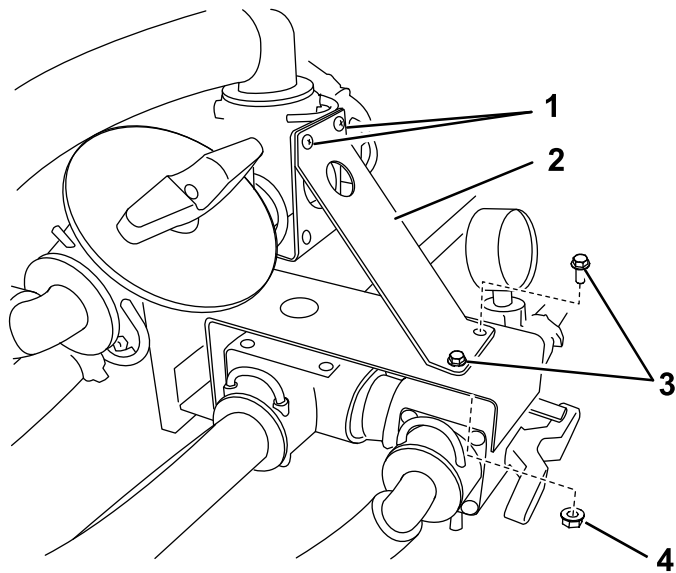

Figure 9
- On a Workman Spray System (Figure 9), remove the 2 screws securing the upper tee and install the support bracket using the screws, 2 flange-head bolts (1/4 x 3/4 inch), and 2 flange nuts (1/4 inch).